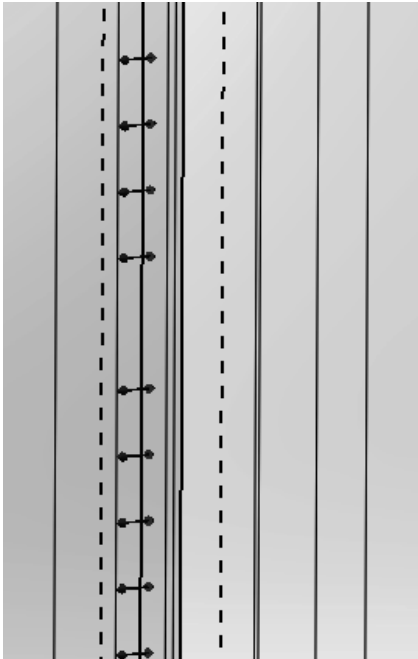

Figure 2.18b) Outlet static pressure boundary condition
18. Red arrows pointing in the flow direction appear indicating the inlet velocity boundary condition, see figure 2.17d). Right click in the graphics window and select **Zoom to Fit**. Right click again in the graphics window and select **Rotate View** once again to rotate the part so that the inner right surface is visible in the graphics window. Right click and click on **Select**. Right click on **Boundary Conditions** in the **Flow Simulation analysis tree** and select **Insert Boundary Condition....** Right click on the outflow boundary surface and select **Select Other**. Select the Face corresponding to the outflow boundary. Click on the **Pressure Openings** button in the **Type** portion of the **Boundary Condition** window and select **Static Pressure**. Click OK to exit the window. If you zoom in on the outlet boundary, you will see blue arrows indicating the static pressure boundary condition; see figure 2.18b).